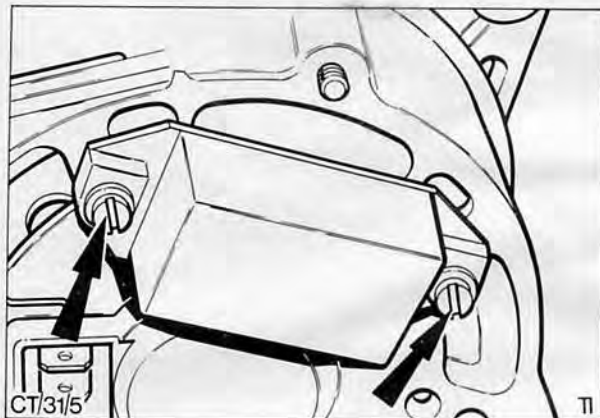

Fig. 29. Regulator retaining screws
3. Remove regulator retaining screws, Fig. 29, and withdraw regulator.